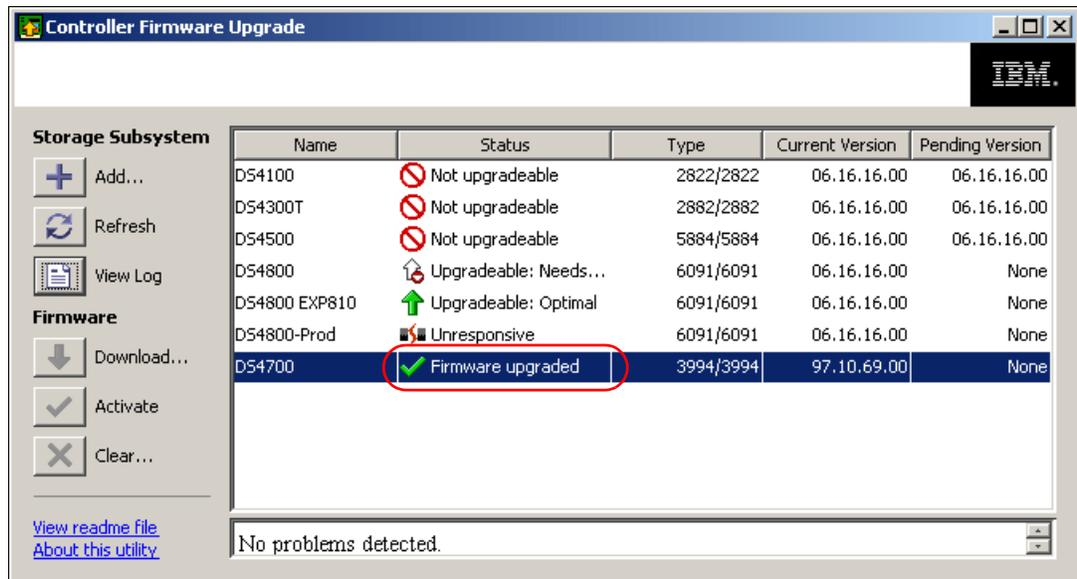

Figure 12-10 Firmware upgraded
- Observe the progress indication during the file transfer and activation. Once finished, the utility indicates the result of the operation. If the transfer and activation were successful, the window shown in Figure 12-10 is displayed.
- If you choose to transfer the files only and activate them later, the window in Figure 12-10 still shows the same current version as when the upgrade was started, while in the pending version column, the new level transferred is displayed. If so, the activate button in the left side is enabled. Schedule a maintenance window to activate it.